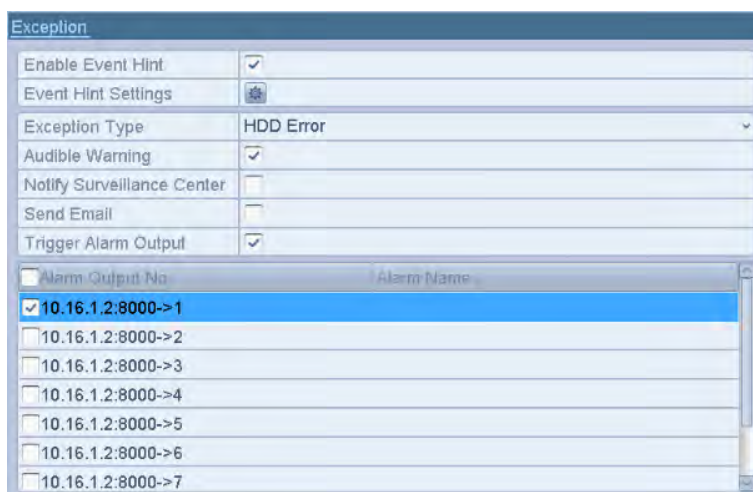

Figure 12. 23 Configure HDD Error Alarm
3. Click the checkbox(s) below to select the HDD error alarm type (s), as shown in Figure 12. 23.